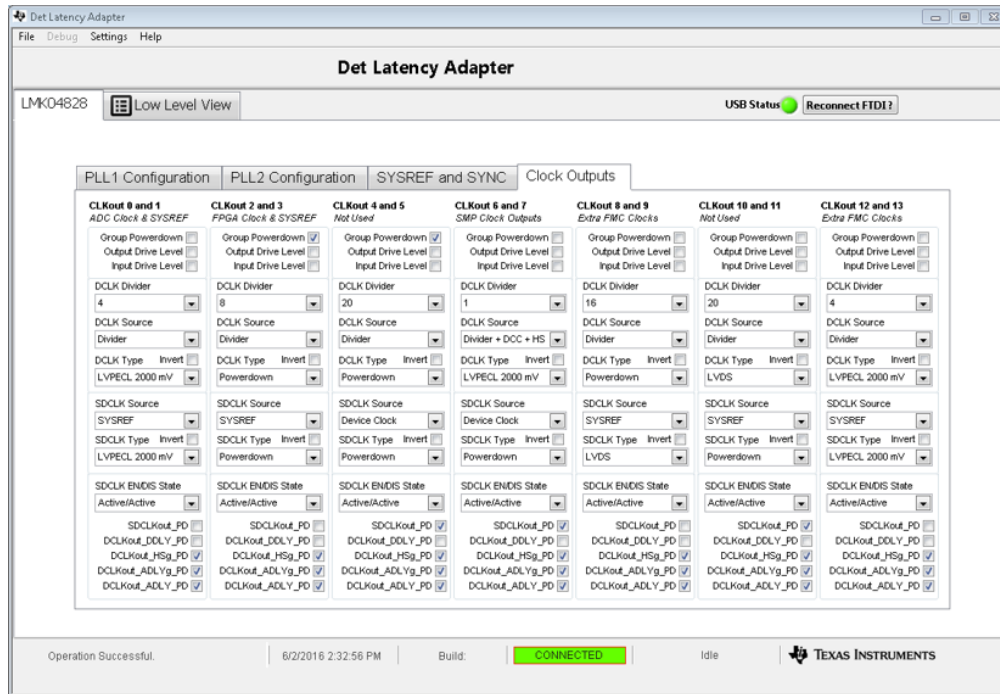

Figure 7. GUI Clock Outputs
3. For the LMK04828 clock output settings, see Figure 7.